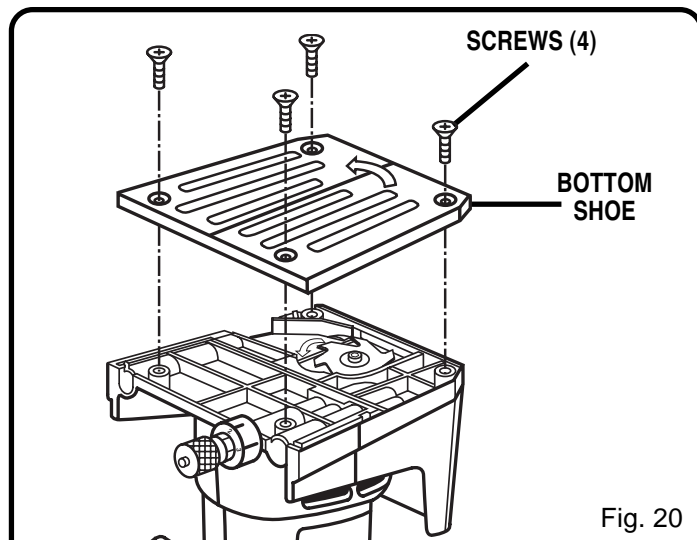

Fig. 20
See Figures 20– 22.
- Place your biscuit joiner upside down on a workbench and remove the bottom shoe screws (4) and bottom shoe. See Figure 20.
NOTE: Blade teeth point toward the right of your biscuit joiner when held in normal operating position. An arrow on the bottom shoe also indicates direction of blade rotation. See Figure 20.